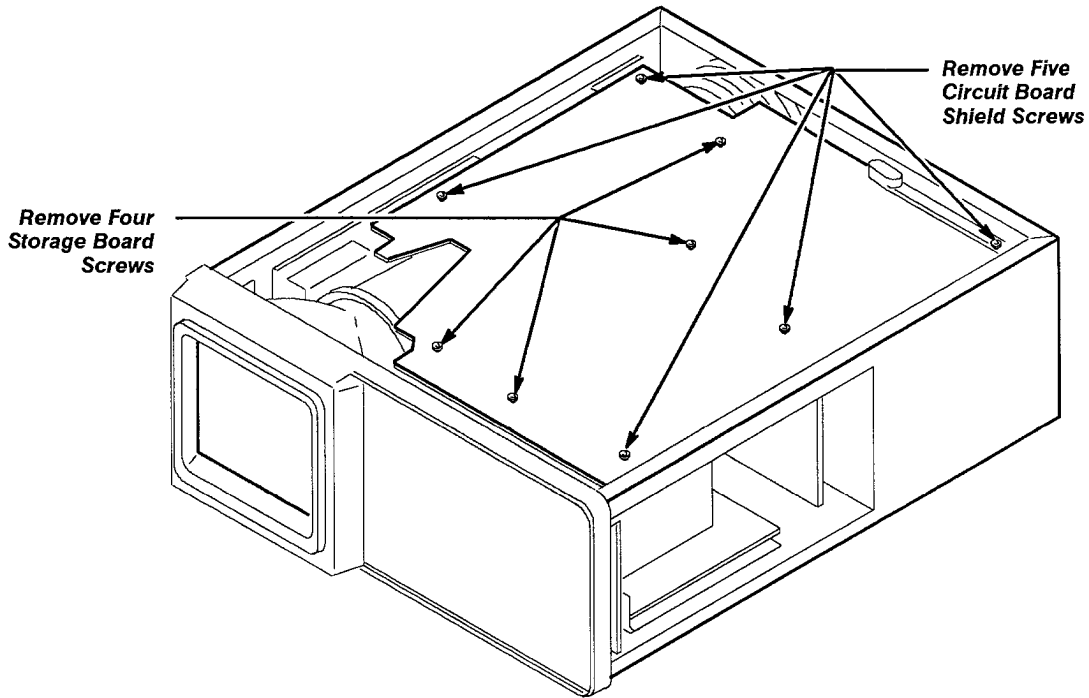

Figure 6-5. Location of screws and spacers on the Storage circuit board.
2. Remove four Storage circuit board screws that secure the circuit board to the chassis. (see Figure 6-5 for the location of the screws).